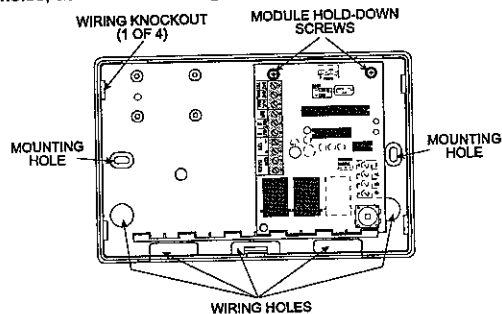

Figure 10 - Plastic Cabinet with SLC-5 Installed
C. Lift the free edge of the cover diagonally up and get the other edge free by pulling it backwards to disengage the tabs at the back. The SLC-5 module does not prevent access to the mounting holes, as evident from Fig. 10.